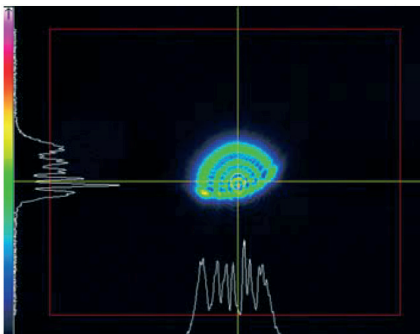

Figure 5. Diffraction pattern of Ø3 mm.
c. Install the output aperture of Ø3 mm and check diffraction pattern on the camera (fig. 5).